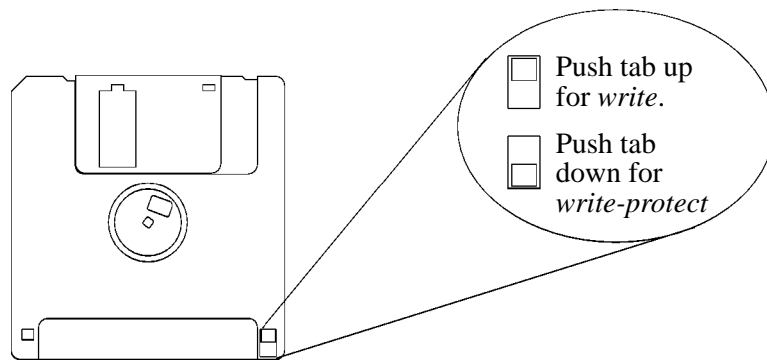

Figure 18
You can only store or change information on a diskette when the write-protect tab is in the *write* position. So, before trying to write to the diskette, make sure that the write-protect tab is in the *write* position, as shown in Figure 18.
To protect files on a diskette from being overwritten, set the write-protect tab to the *write-protect* position, as shown in Figure 18.
- 2 Make sure that the write-protect tab on the floppy diskette is in the *write* position, as shown in Figure 18.